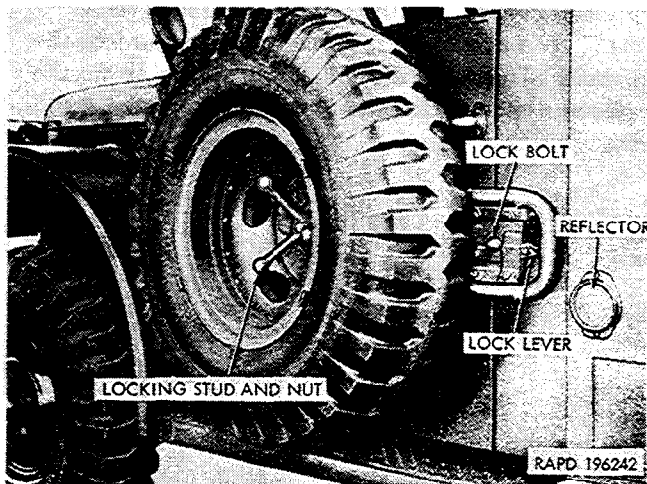

Figure 2-178. Hinged type spare wheel carrier (ambulance truck M43).
(4) Mount the spare wheel on the carrier and install the locking nut (fig. 2-178).
(5) Lubricate lock bolt regularly as specified in lubrication order, LO 9-2320-212-12, to minimize wear on the locking lever. In the event the lever is worn and does not hold the tire carrier securely, repair the lever by building up the wear surface with acetylene welding. Use a welding rod and grind or file excess weld. Clean, prime, and paint.